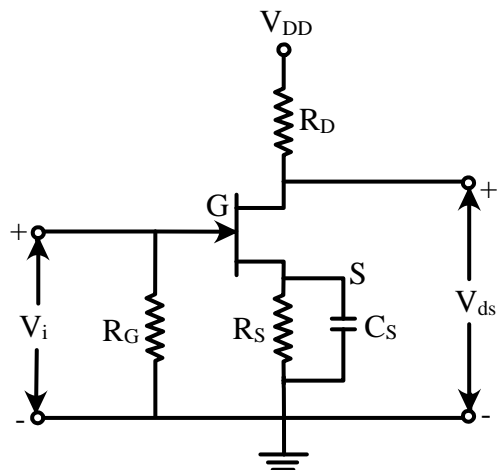

Figure 6.15: Common Source Amplifier
Common source amplifier is one with no source resistor, so the source is connected to the ground. Common source amplifier is widely used and is similar to CE of a BJT. Circuit configuration as shown in figure 6.15. Common source FET configuration is probably the most widely used of all FET circuit configurations.
Common Source (CS) amplifier is the FET equivalent of the common emitter transistor amplifier configuration. Like the CE amplifier, it is capable of high voltage gain. The CS amplifier has the input applied between the gate and source terminals and the output signal taken across the drain and source terminals. Therefore, the source terminal is common to both the input and output signals. Small signal equivalent circuit using the voltage source model of FET as shown in figure 6.15.